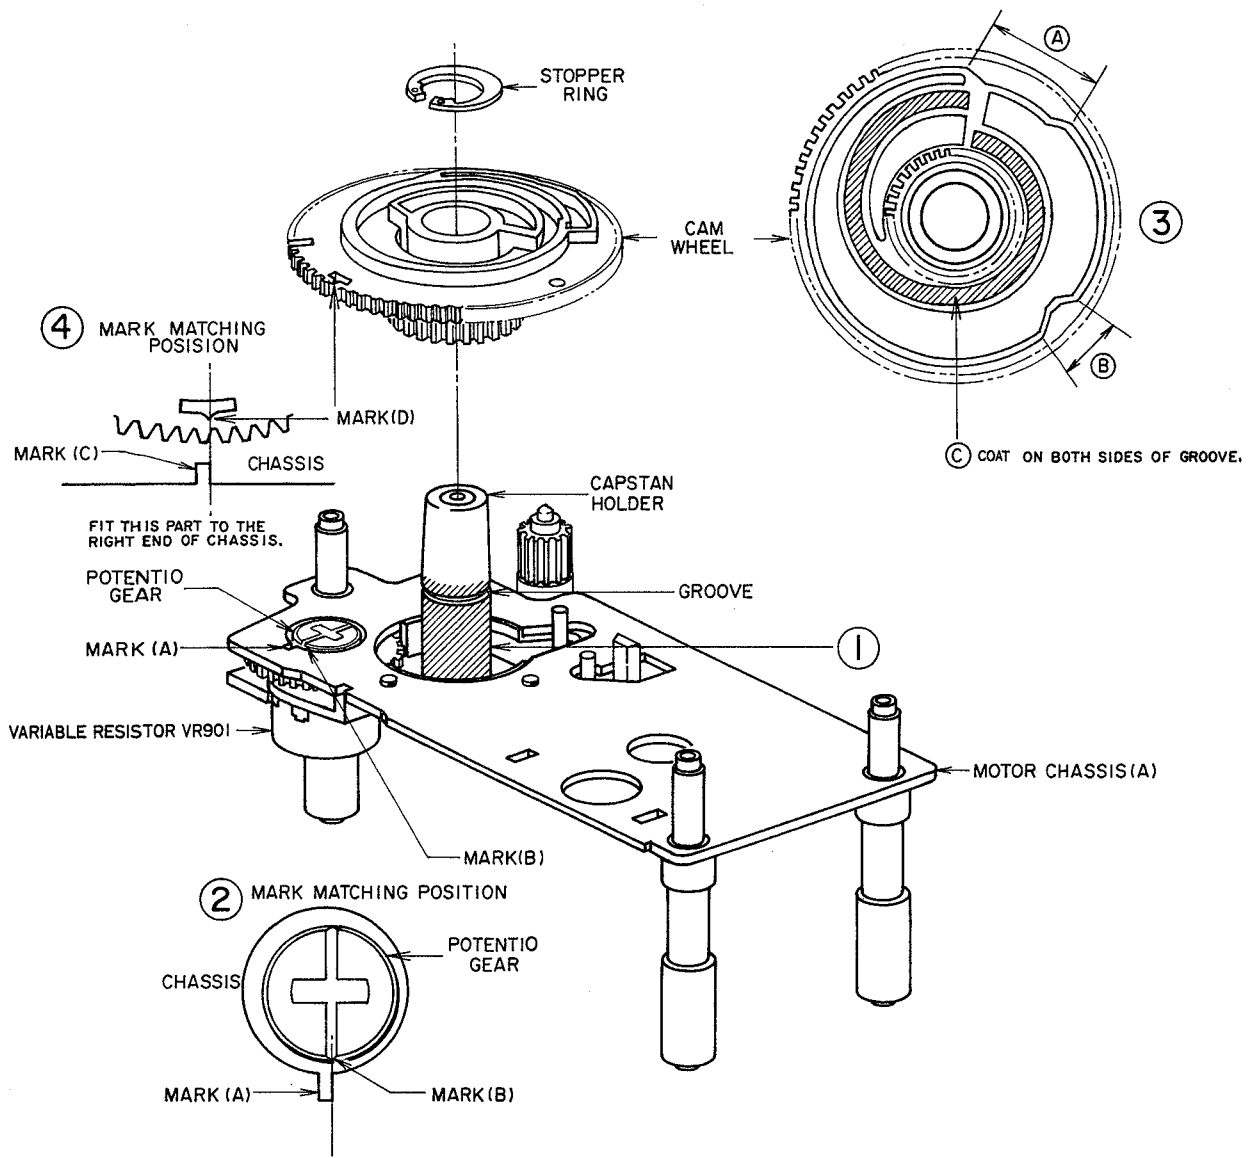

Fig. 7-3
- 1) Apply Molybdenum coat on the capstan holder. Apply Molybdenum coat on the area of 360° from the bottom to the upside 2mm of groove as shown in the figure. (Fig. 7-3 ①)
Fit the right end of Mark (A) to the center of Mark (B) as shown in the figure. (Fig. 7-3 ②)
- 3) Apply Molybdenum coat on (A), (B) and (C) shown in Fig. 7-3 ③.
- 4) Set the cam wheel on the capstan wheel (Ensure that the cam wheel and potentiometer gear are meshed properly). When the cam wheel is set properly, fit the center of Mark (D) to the right end of Mark (C). (Fig. 7-3 ④)